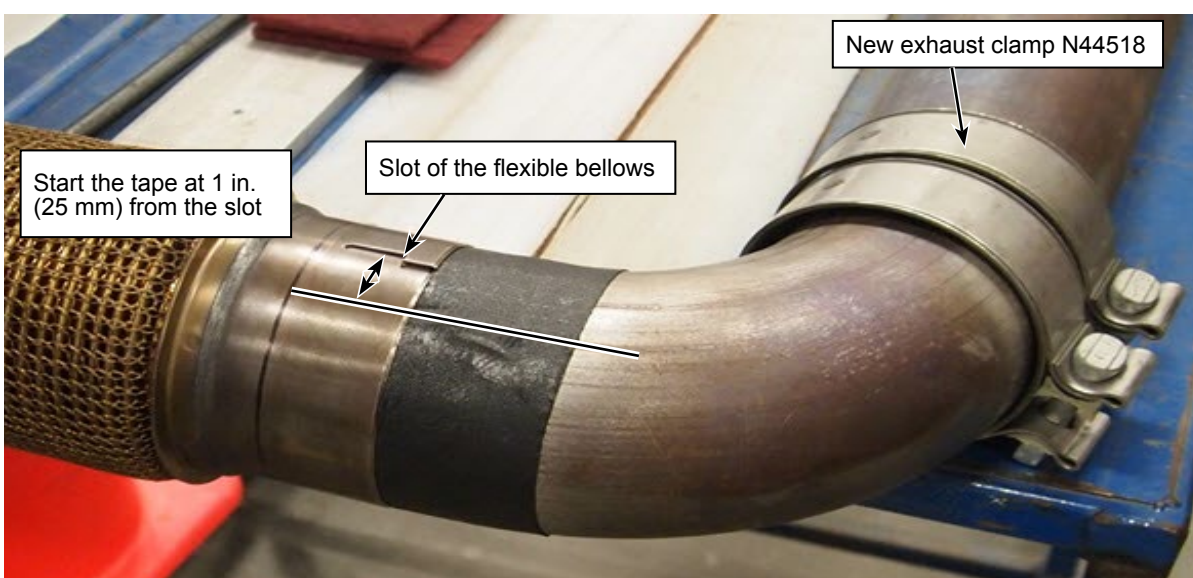

Figure 3 - Position of N83257 Tape on the Exhaust Pipe and Installation of Exhaust Clamp N44518
- 1.11. Starting 1 inch (25 mm) from the slot of the flexible bellows, wrap 3 feet of N83253 (2 in. wide) tape around the exhaust pipe without any spiral. Tape must be flush with the flexible bellows and not overlap on the flexible bellows. See Figure 3.
- 1.12. Install new exhaust clamp N44518 on the exhaust pipe. See Figure 3